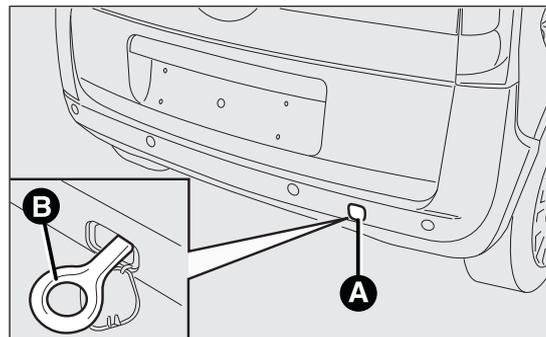
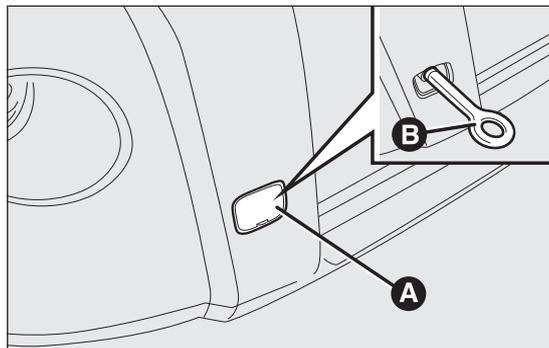

fig. 165
fig. 166
- release the cap A fig. 165 fig. 166;
- take the tow hook B fig. 165 fig. 166 from the tool bag;